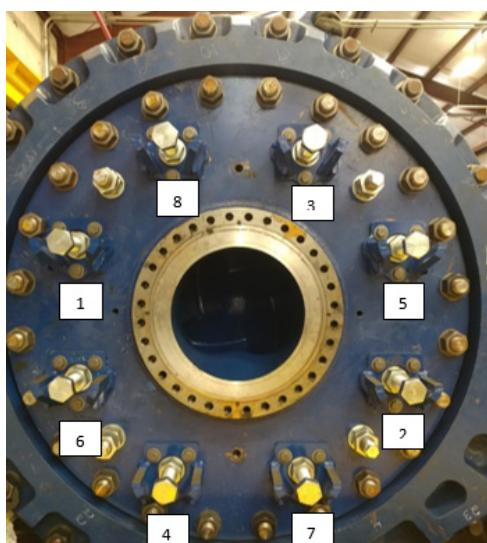

Figure 10-29: Pusher-Bolt Adjustment Torque Pattern
- Perform adjustments at a constant slurry specific gravity (SG). If fluctuations cannot be controlled to within +/- 5%, make adjustments on clear water for reliable indication of rubbing during adjustment.
- Adjust the pusher bolts in multiple passes using a crosswise torque pattern (Figure 10-29). We recommend adjusting in small increments; see below for more detailed guidance on selecting an adjustment increment. This will help minimize stress per bolt and the torque requirement and will improve the ability to detect when the liner contacts the impeller.